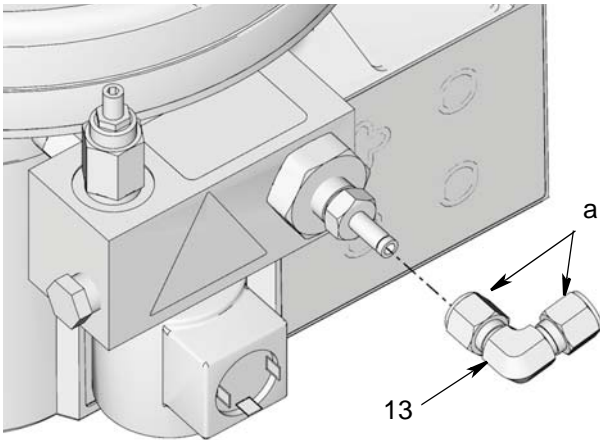

FIG. 9
- Loosen union elbow nuts (a) and connect elbow (13) to tube adapter (11) (FIG. 9).